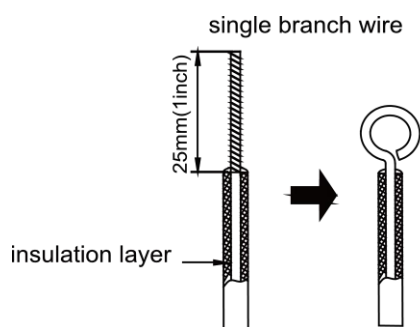

Fig 5.1.1
- (1) The connection of wire (as shown in fig 5.1.1)